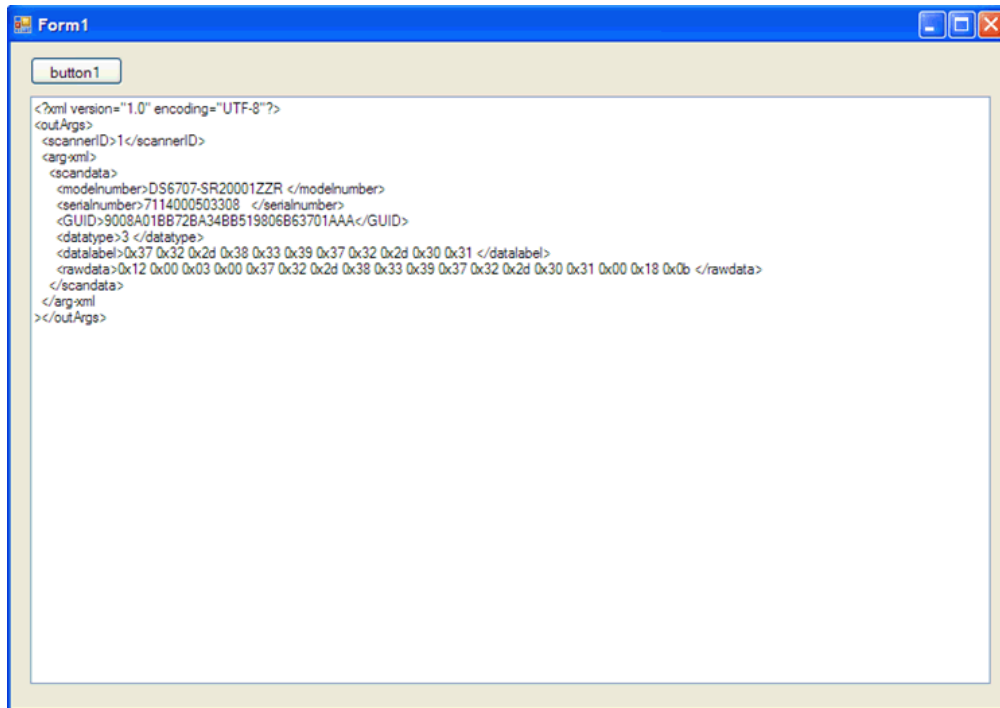

Figure A-20 Scanned Bar Code Output
6. If you execute the application and click on the button, the application instantiates CoreScanner and is ready to receive bar code events. Figure A-20 illustrates the output when you scan a bar code.